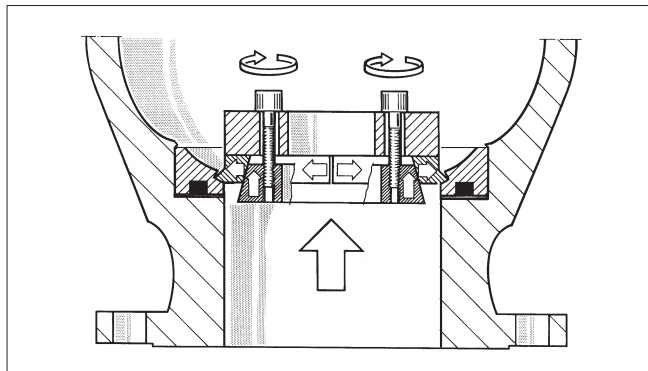

Fig. 16 Removing a locked seat
- Remove the seat (7) from the body cap making sure that it is not damaged during the operation. If the seat is of a locked type, use a special tool which can be ordered from the manufacturer (see Figure 16 and Section 8 'Tools').